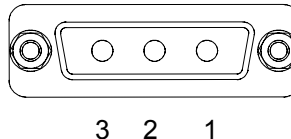

Figure 2-1 +27 Vdc Power & Ground Connector
1. Connect the +27 VDC power source to the booster power input connector (see figures 2-1, 3-1, and table 2-1). Do not apply power at this time.
The +27 Vdc power and ground connections on the amplifier are made through a 3-pin female D-Sub connector (figure 2-1) and are listed and described in table 2-1.